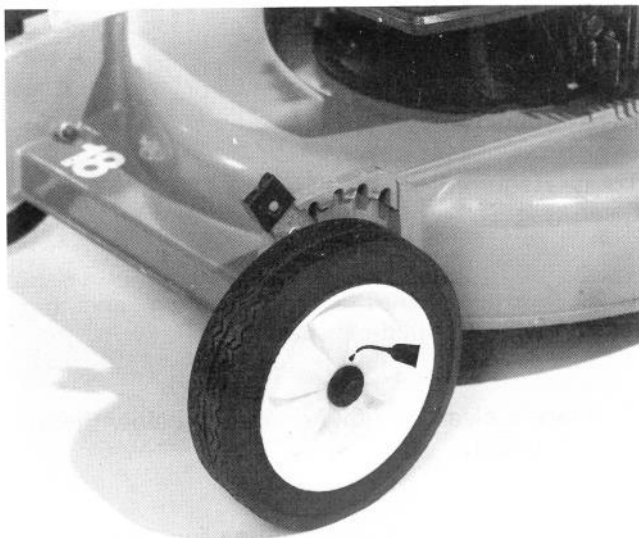

Figure 27
1. After every 25 hours of operation or at the end of the mowing season, apply 2 or 3 drops of light oil on the inside of all the wheel bolts (Fig. 27). Spin the wheel to distribute oil into the wheel bushings. Wipe up any excess oil.